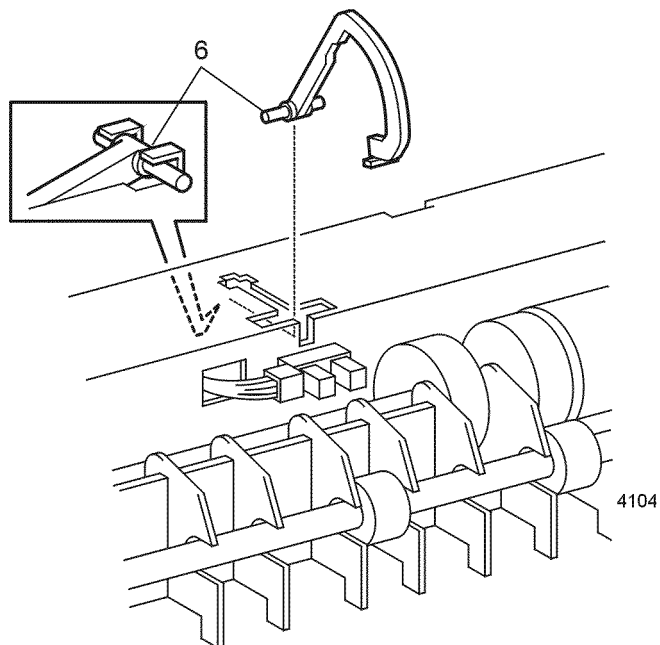

Figure 1 No Paper Actuator
6. Remove the actuator from the Feeder Chute (Figure 1). (A small screwdriver may be used to pry the actuator free of the retaining clips).